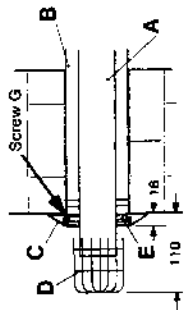

Fig. 17
Separate the two tubes by removing screw G (fig. 17).
Ensure inner and outer terminal tubes are firmly fitted together with screw G (fig. 17). Push the terminal tubes through the wall until the face of the outer tube protrudes 18mm from the face of the wall (fig. 17). The terminal grill (D) will then protrude 110mm from the wall face.
NOTE: The two tubes must be separated by removing screw G fig 17 before cutting.
- 5.5.15** Check also that the outer end of the flue projects as indicated in fig. 17.
- 5.5.18** Seal the peripheral gap around the outer tube with cement or mastic and slip the cosmetic flexible plastic collar (fig. 17 item C) into groove on the pipe. This operation can only be carried out with external access. Seal the internal wall face around the air duct.